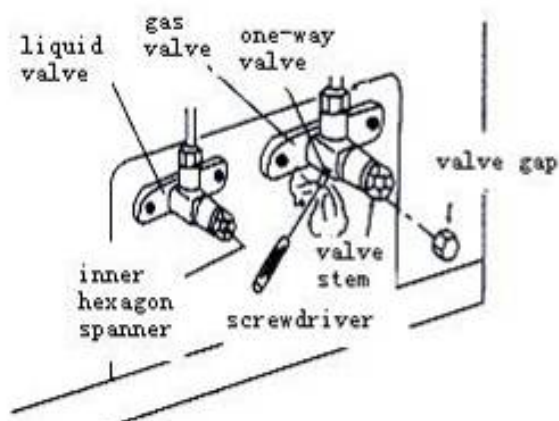

Figure 3-1-4
- ◆ Open spools of gas valve and liquid valve completely ( as figure 3-1-4)